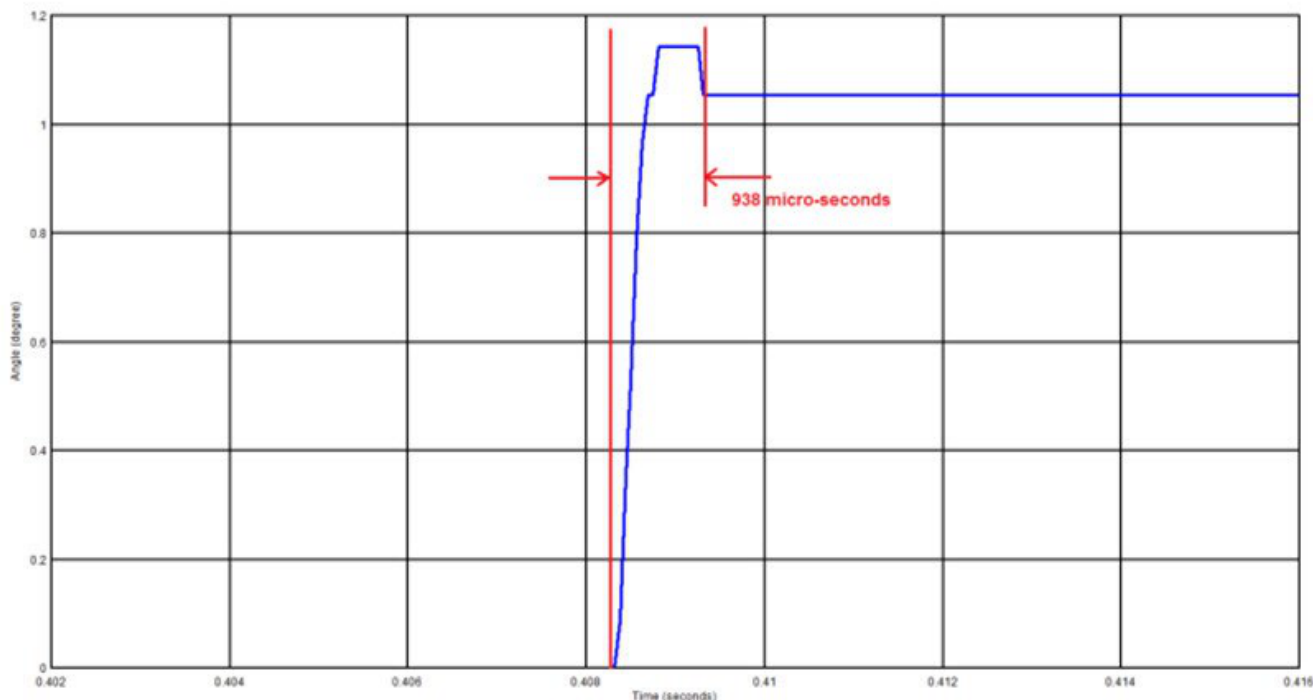

Figure 2. Step Response for 1-Degree Angle Change
- **Ability to measure the angle step response.** Many drive applications have dynamic change in the angle; the RDC should be able to respond to these changes. The RDC reference design is tested for two small-angle step responses: 1 degree and 5 degrees. Figure 2 shows the step response for a 1-degree change. The angle settles to the required angle within 938µs.